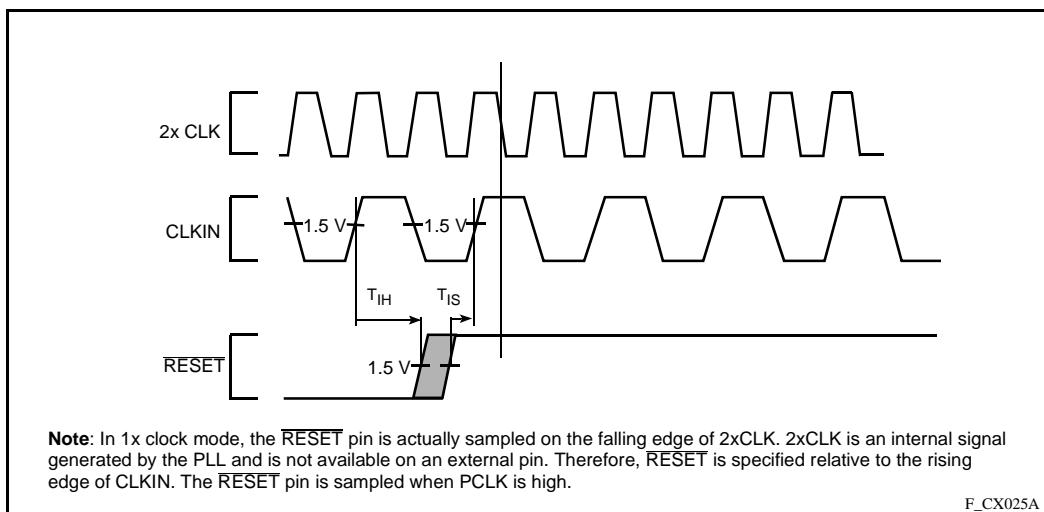

Figure 24. Clock Synchronization in the 1-x Clock Mode
14. In 1-x clock mode, RESET is an asynchronous input which has no required setup and hold time for proper operation. However, to guarantee the device exits reset synchronized to a particular clock edge, the RESET pin must meet setup and hold times to the rising edge of the CLKIN. (See Figure 24.)